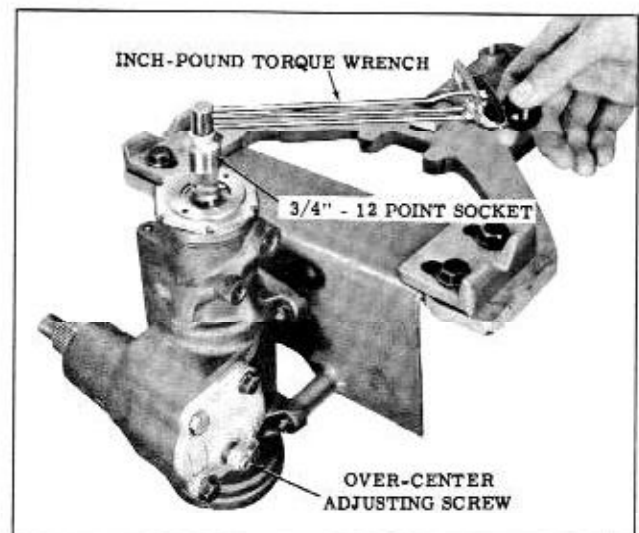

Fig. 4-70 Checking Over-Center Preload
- c. Rotate the lower shaft from one stop to the other to count the number of turns and locate the center of travel, then check the combined ball and thrust bearing preload by rotating the torque wrench through the center of travel. (Fig. 4-70) Note the highest reading.